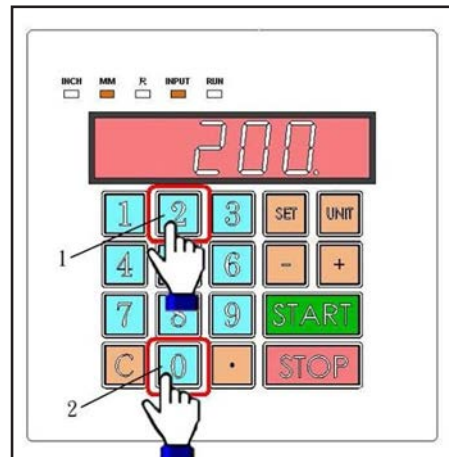

**Figure 31.** Entering 200.0mm value.
2. Use numerical keypad to enter desired table position of 200mm (or 200.0mm) (see **Figure 31**).